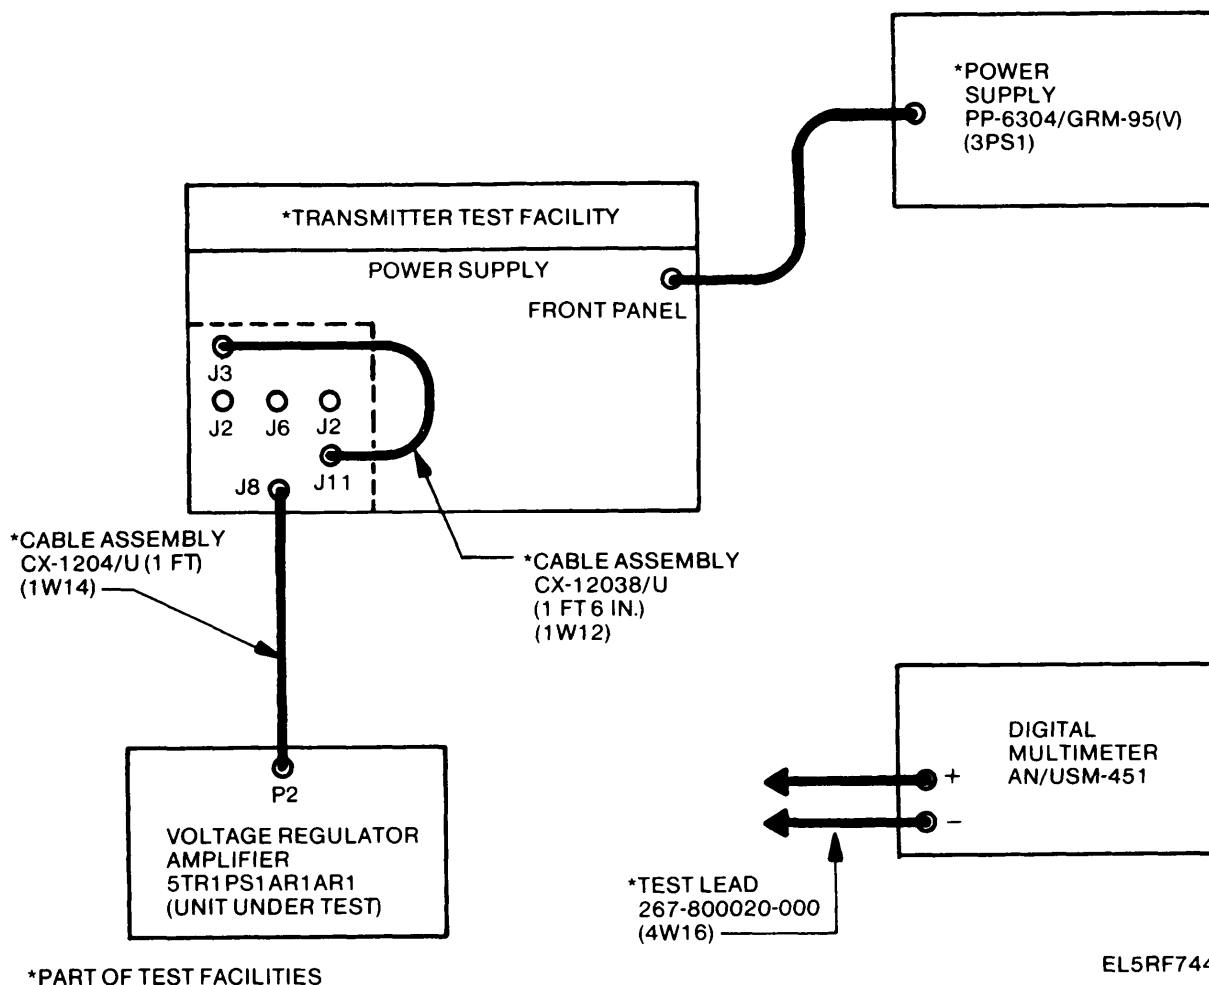

Figure 3-120. Voltage Regulator Amplifier 5TR1PS1AR1AR1, Test Setup.
b. Test Procedure (Fig. 3-120 thru 3-122).
- (1) Remove both covers from the UUT.
- (2) Open the test facility POWER SUPPLY door and remove special purpose cables W2 and W3.
- (3) Connect the test equipment as shown in figure 3-120.
(4) Adjust the voltage control on power supply PP-6304/GRM-95(V) to 115 Vac as indicated on the power supply VOLTS meter. Maintain this indication throughout the following procedures unless otherwise instructed.
(5) Set the test facility switches as follows: